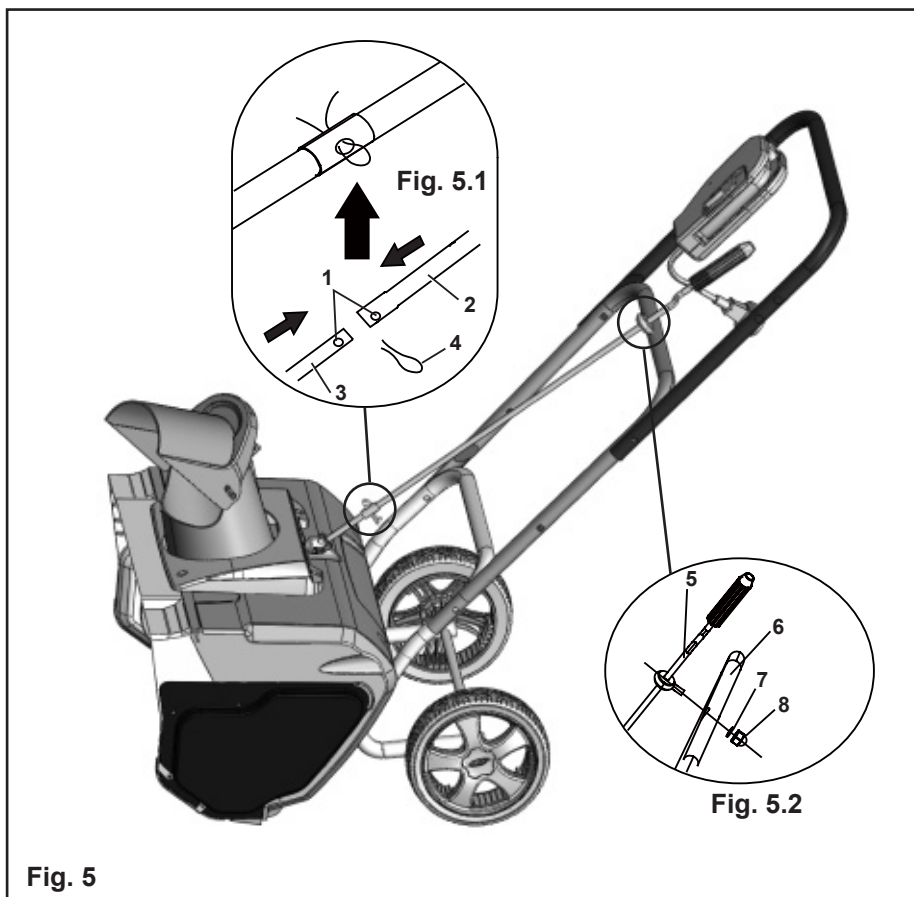

Fig. 5
ASSEMBLING THE DIRECTIONAL CHUTE ARM TO DIRECTIONAL CHUTE PINION (See Figure 5)
ASSEMBLING THE DISCHARGE DIRECTIONAL ARM CONTROL TO THE CENTER HANDLE (See Figure 5)
- Shave down large banks of snow by placing the Snow Thrower on the bank. Lift the Snow Thrower by the primary and secondary handles only (Fig. 5). Allow the weight of the Snow Thrower to shave down the bank in a back-and-forth motion.
- When clearing steps or deep drifts, hold the Snow Thrower by the primary and secondary handles (Fig. 5), and use a swinging or sweeping motion.